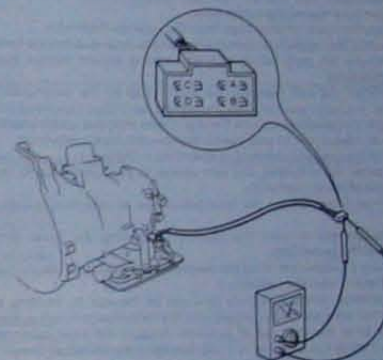

Fig. 7.11 Testing the starter inhibitor switch (Sec 14)
- 2 If a fault is suspected, separate the switch wiring connector and check for continuity using a multimeter. Referring to Fig. 7.11 for terminal identification, there should be continuity at connector terminals A and B with the transmission in the P and N positions, and at terminals C and D with the transmission in the R position. If this is not the case, renew the starter inhibitor switch.